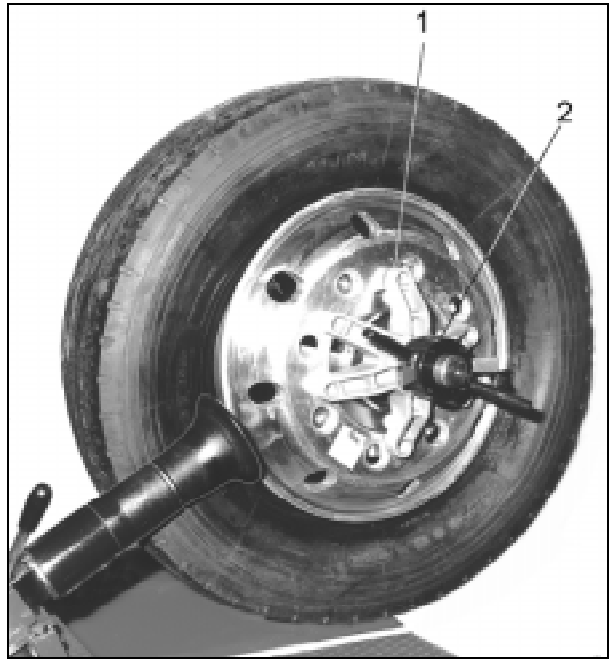

Fig.17
- C. Lock the rim with the wing nut (#2 Fig.17) and the star flange (#1 Fig.17) so that the drive pin is engaged into a bolt hole of the rim.**